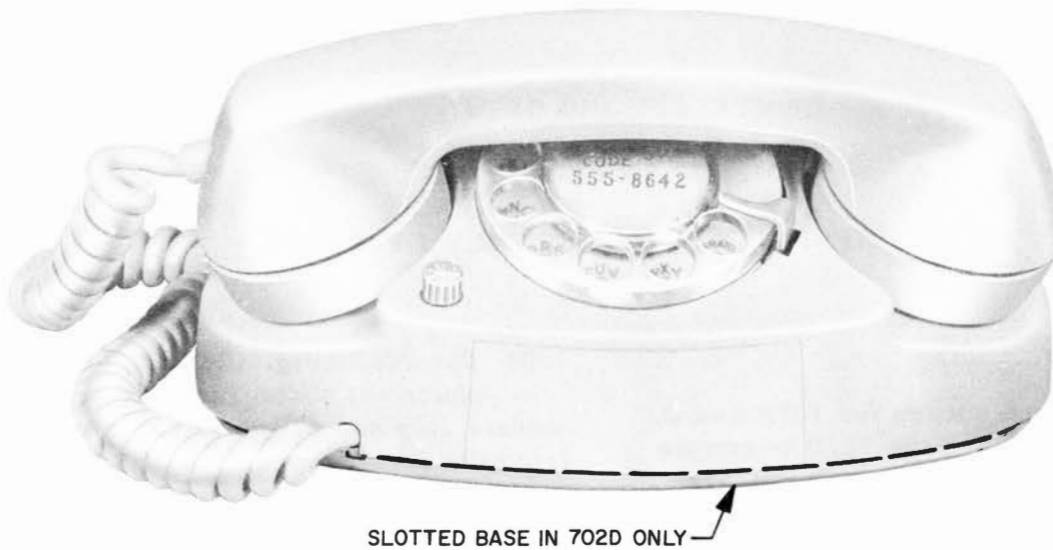

Fig. 2 - 701D and 702D Message-Waiting Telephone Set
2.04 The 701D and 702D telephone sets are the same in design and circuitry as the 701B and 702B with the added feature of a message-waiting lamp. (See Fig. 2.) These sets are intended for use in hotels and motels which are provided with the associated message-waiting equipment.